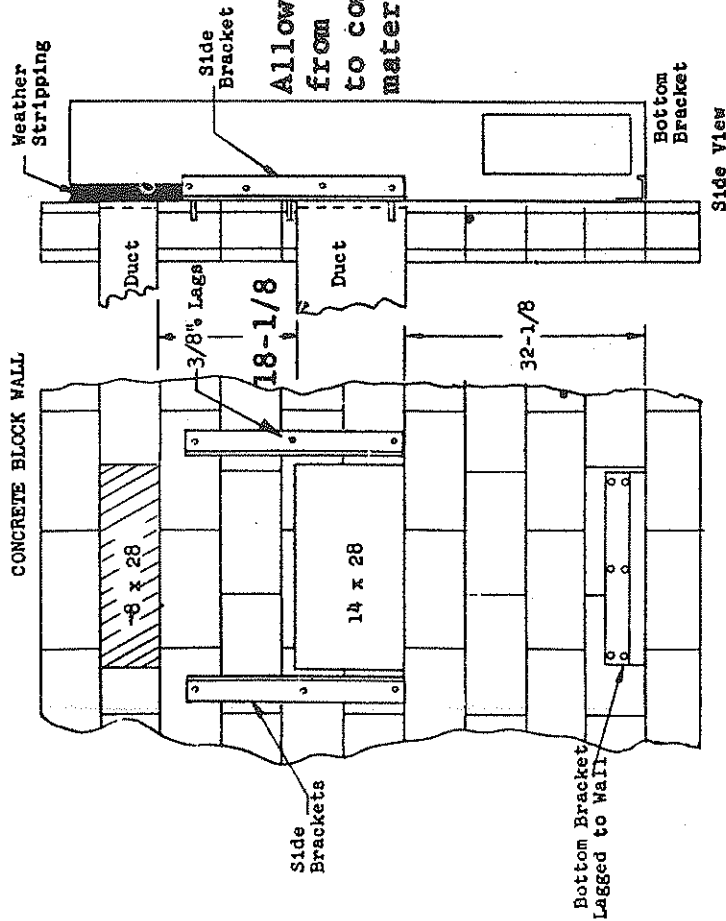

Fig. 1
1. Two holes, the size of the supply and return air openings must be cut through the wall as shown in Fig. 1 and 2 on page 6.